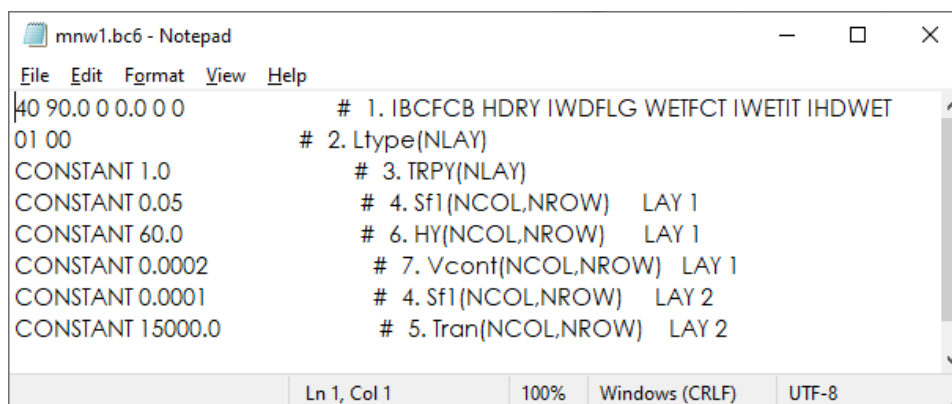

Figure 8: MODFLOW BCF file saved in native text format from GMS
4. Using a text editor, open the “mnw1.bc6” file (Figure 8).